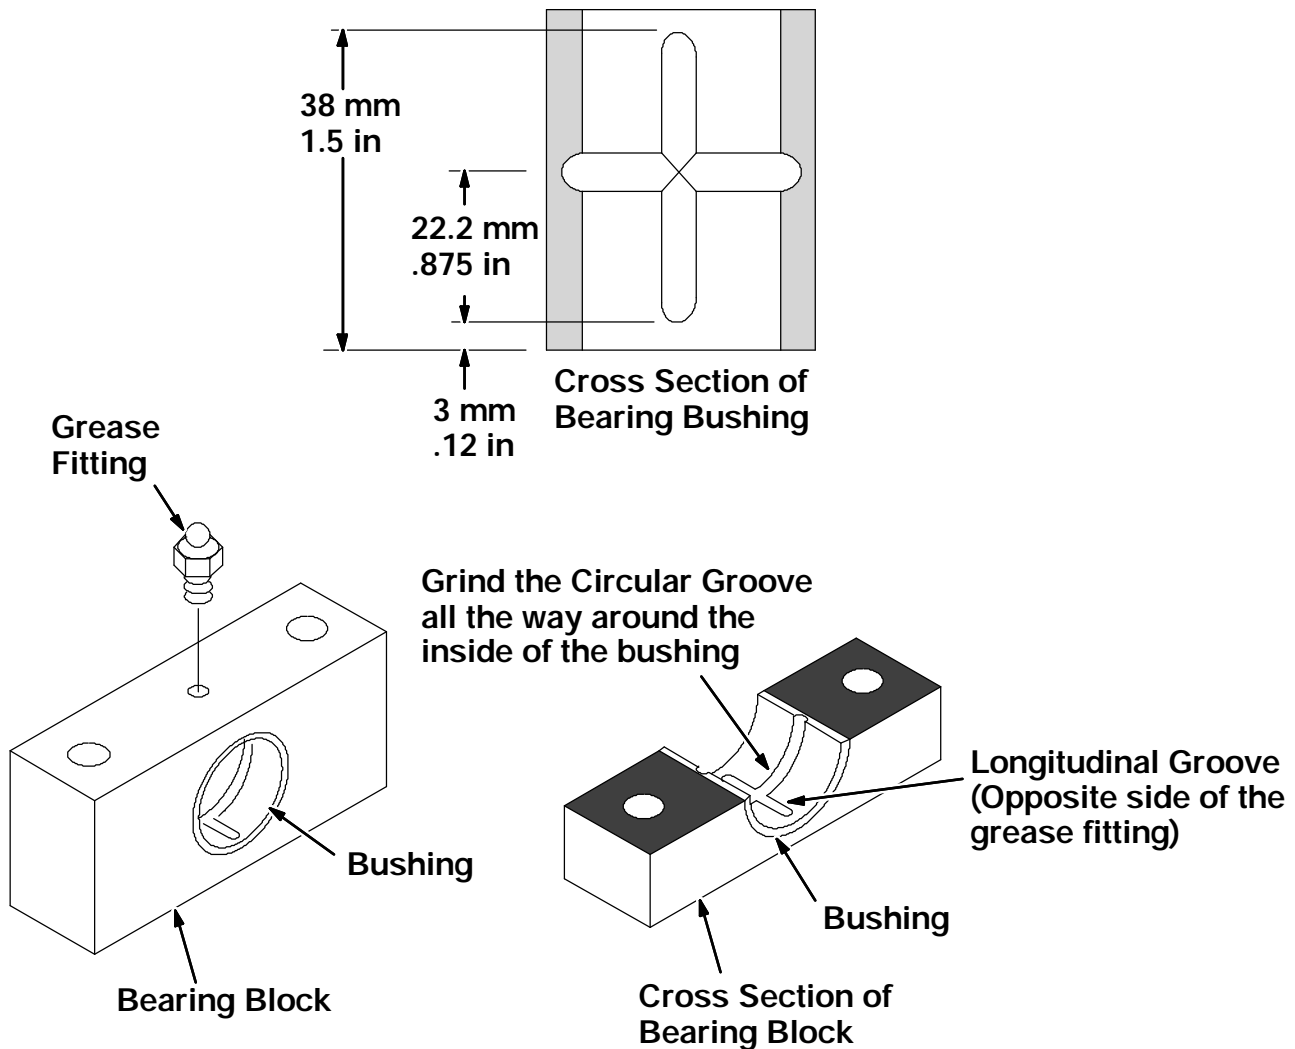

FIG. 4 - Bearing Block And Bushing
(Refer to FIG. 4)
4. Grind grooves 1/8 inch wide and .06 inch deep into the bearing block bushing with a Die Grinder. (Refer to Fig. 4) Make sure the longitudinal groove is opposite the grease fitting.